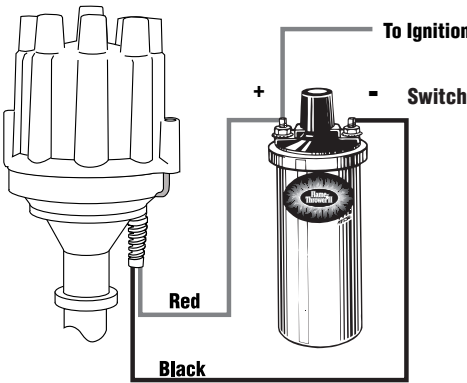

Figure 1
1. Attach the black Ignitor III wire to the negative coil terminal. (See Figure 1)
2. Attach the red Ignitor III wire to the positive coil terminal. (See Figure 1)